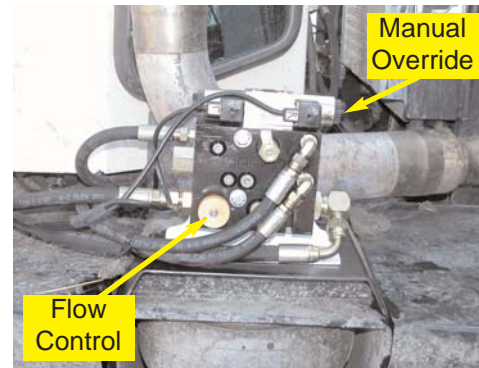

Figure 8. Flow control and manual override.
- counter-clockwise to increase flow.(Figure 8.)